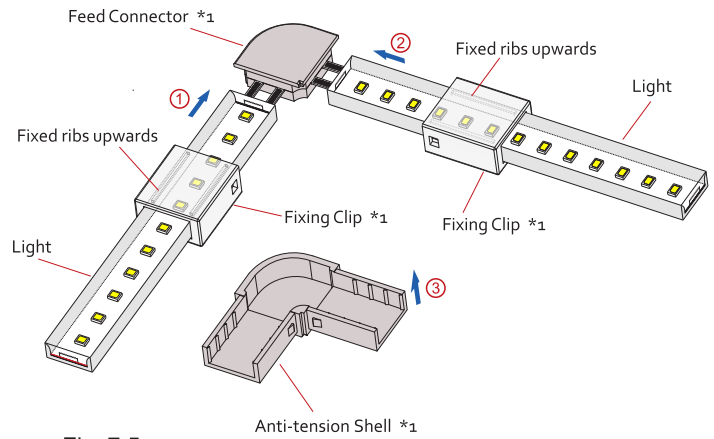

Fig. 7.5
- Fig. 7.5 — Pls doing the assembly according to ① ② ③ ④ ⑤ ⑥ ⑦ steps, and make sure the fixing clip's two fixed ribs are upwards.